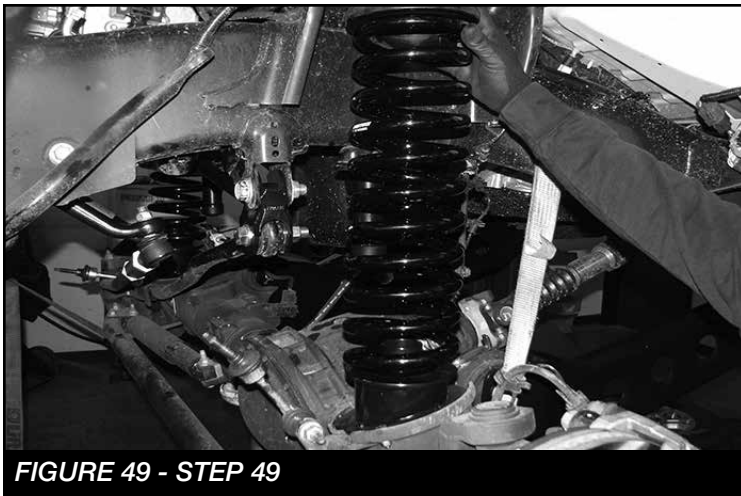

FIGURE 49 - STEP 49
49. Locate and install the new coil spring (FT44320BK) using the factory coil spring isolator. **SEE FIGURE 49**